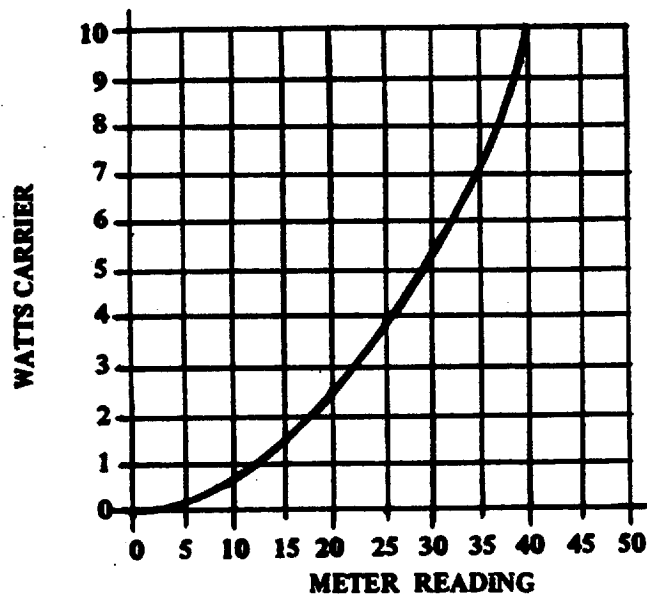

Figure 5-3. Exciter RF Carrier Power Vs Meter Reading
- (1) When power amp is not operating, reading will be 15 to 40 indicating exciter mode of operation.
- (2) See Curve Figure 5-3.